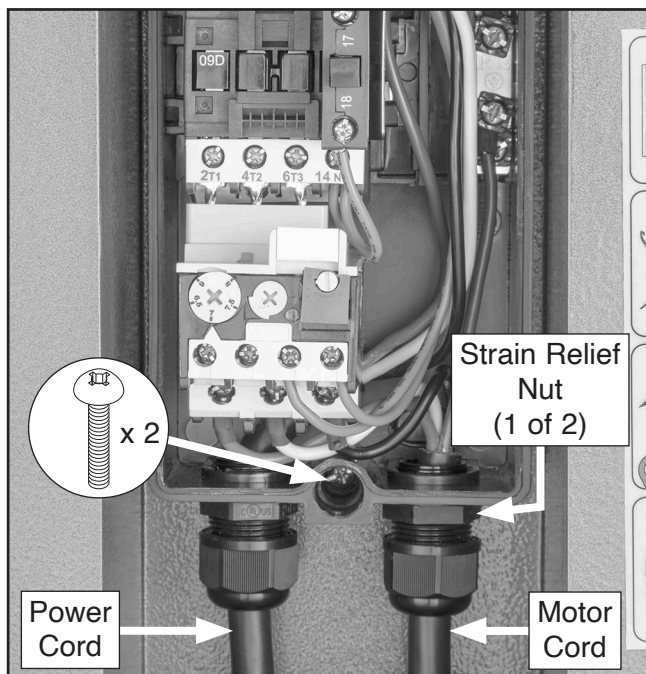

Figure 14. Location of magnetic switch box components.
9. Disconnect wires coming from power cord and motor cord from contactor, overload relay, and ground terminals inside 230V magnetic switch box (see **Figure 14**).
10. Loosen (2) strain relief nuts shown in **Figure 14** to remove motor and power cords from strain relief holes.
11. Remove (2) screws shown in **Figure 14** to remove 240V magnetic switch box from machine.